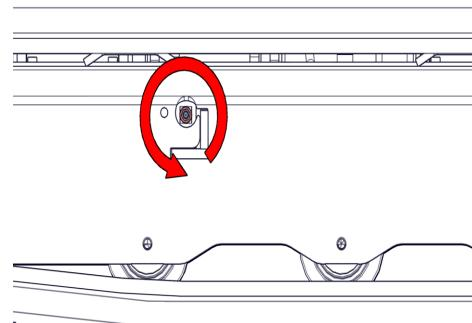

Figure 39 - Grease nipple location
2. Locate the grease nipple in the side frame (see Figure 39).